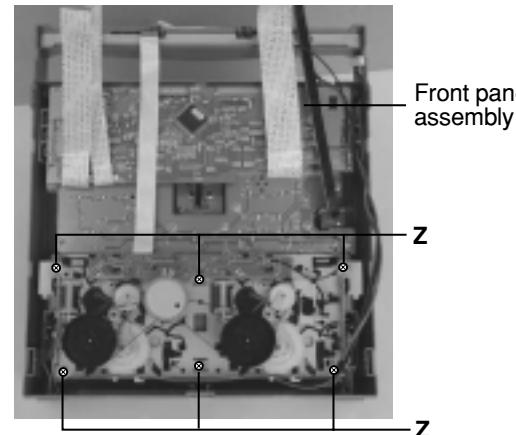

Fig.19
■ Replacing the CD turn table and removing the motor (See Fig. 19)
■ Removing the cassette deck mechanism (See Fig.19)
(See Fig.19, 24 and 25)**
1. Remove six screws **Z** retaining the cassette deck mechanism. (Fig.19)
(See Fig. 19 and 26)**
1. Remove the six screws **Z** that retain the cassette deck mechanism. (Fig.19)
■ Removing the cassette deck heads (See Fig. 19 and 27)
1. Remove six screws **Z** that retain the cassette deck mechanism. (Fig.19)